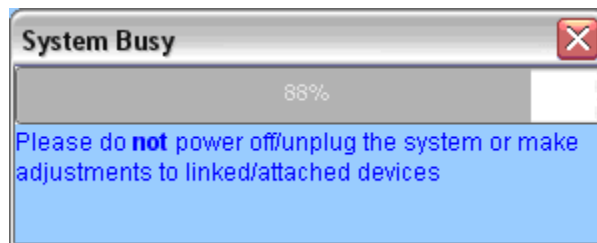

Figure 98: System Busy Dialog
- The system will add these devices to the scene. A System Busy dialog will be with a progress bar will be shown. Depending on the complexity and the number of other devices, especially with controllers/masters, it may take roughly 10 seconds to a few minutes to program the device(s) in becoming part of a scene. Heed the note within the dialog box. **Figure 98: System Busy Dialog**